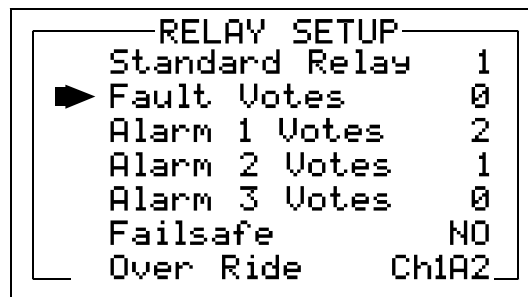

Figure 2.8
The menu shown in Figure 2.8 allows configuring of both the standard **Relay 1 & Relay 2** motherboard relays and the six optional relays on the 10-0222 discrete relay option PCB. Both standard and optional relays are programmed in this menu. Select the relay to be configured by pointing the arrow at the top menu item and pressing EDIT. The field will scroll through all eight possible relays (2 standard and 6 optional).
- Fault, Alarm 1, Alarm 2, Alarm 3** menus in Figure 2.8 offers additional “voting” flexibility by controlling the channel alarm combinations that will trip the selected relay. Each *Votes* entry requires this quantity of channels, for of each type alarm be active before this relay activates. As illustrated in Figure 2.8 above, Standard Relay 1 activates when any 2 channels have Alarm 1 conditions, PLUS, any one channel has an Alarm 2 condition. And since the **Over Ride** menu (see description below) contains the **Ch1A2** entry Standard Relay 1 also activates if alarm 2 on channel 1 trips. Fault Votes and Alarm 3 Votes values are 0 therefore Fault and Alarm 3 conditions will not affect this relay. Votes follow the logical “AND” function.